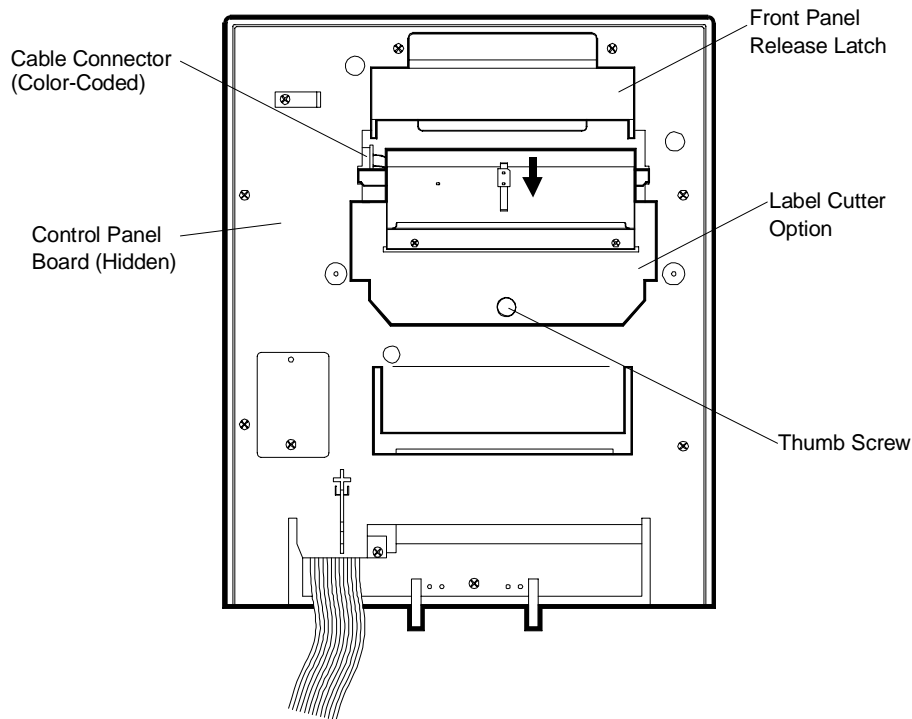

Figure 4-13 Label Cutter Installation (Model 48 and 412)
3. Secure the label cutter option to the front panel by turning the thumb screw clockwise (see Figure 4-13).